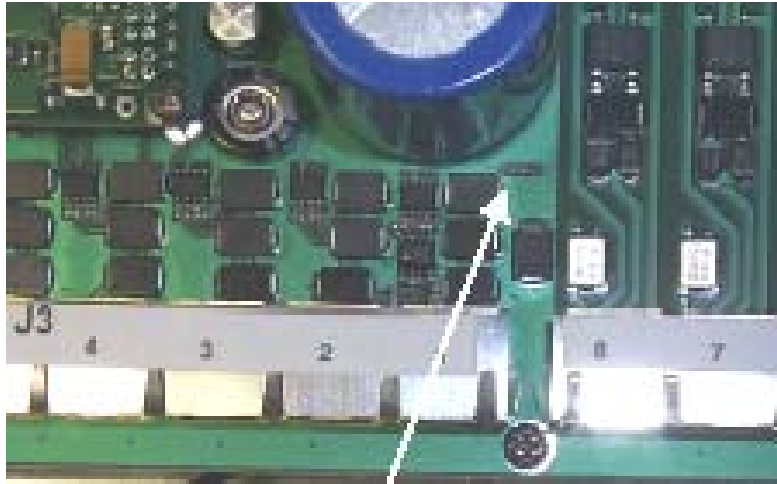

Figure 132: Port indicator LED on Ethernet switch
- the green LED on the circuit board, as shown in Figure 132.